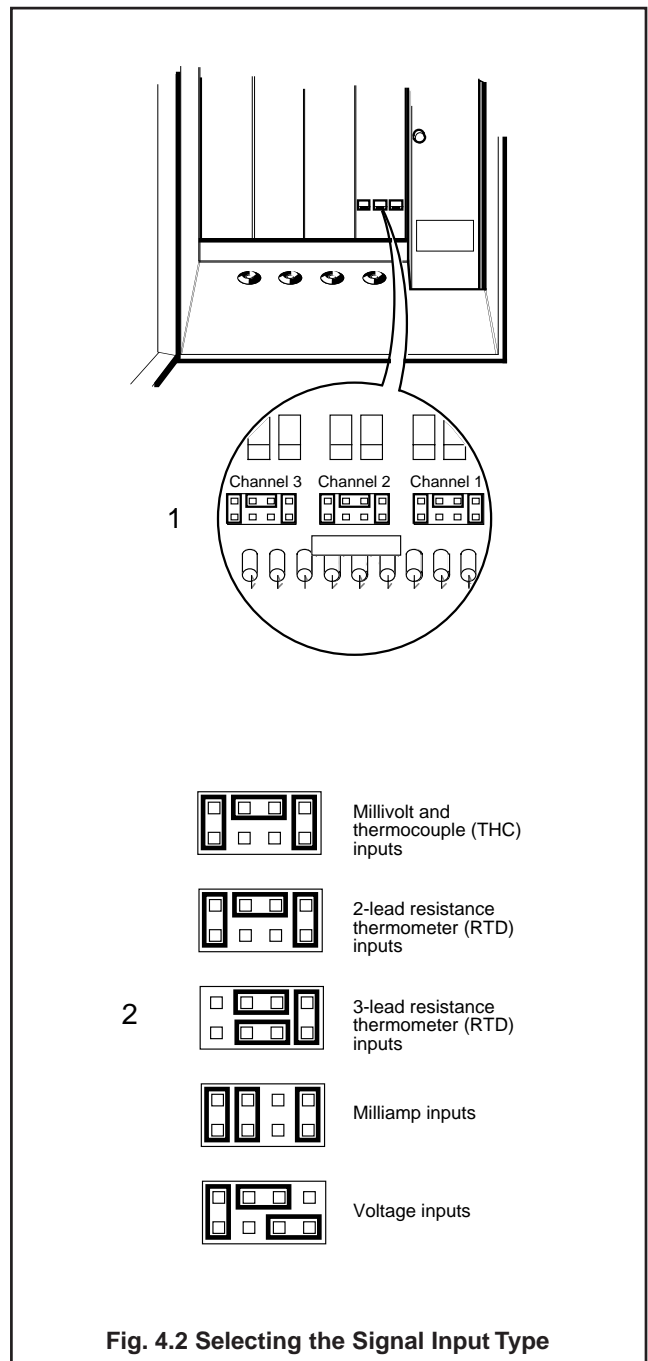

Fig. 4.2 Selecting the Signal Input Type
4.3.1 Selecting the Signal Input Type – Fig. 4.2
With reference to Fig. 4.2: